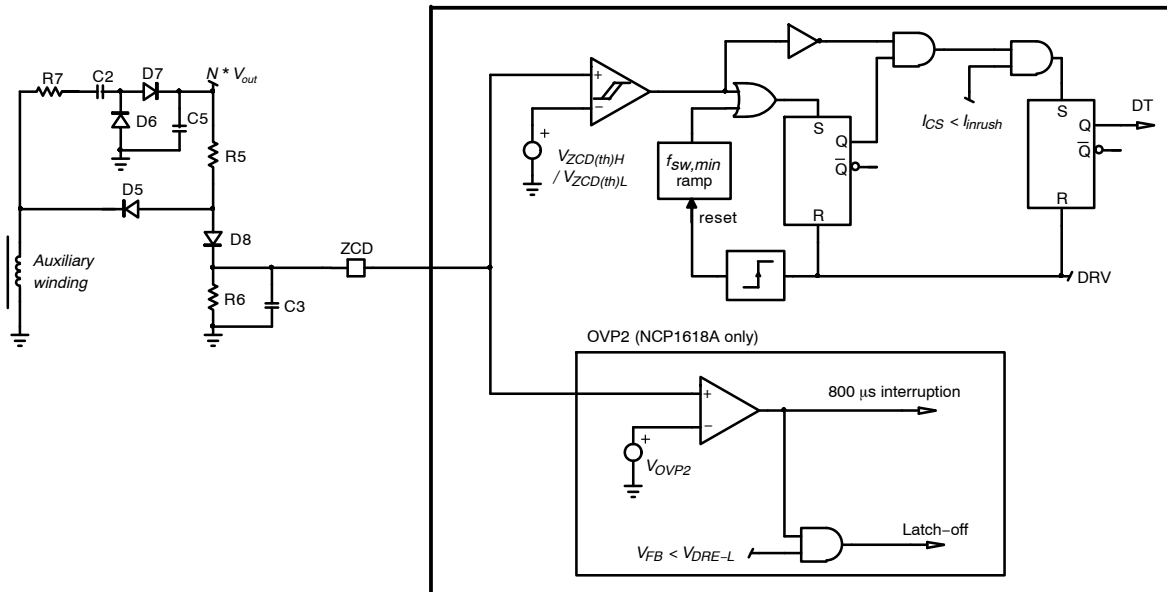

Figure 10. Zero Current Detection Block
Application note AND90011 discusses recommended circuitries for an accurate ZCD and OVP2 detections. Figure 10 provides one of these circuitries. In this circuit, R_7 being small, capacitor C_2 is charged to
Figure 10 shows how the NCP1618 detects the valley. An internal comparator detects when ZCD pin voltage exceeds an upper threshold V_{ZCDH} (1 V typically). When this is the case, the inductor core is resetting and the ZCD latch is set. This latch will be reset when the next driver pulse occurs. Hence the output of the latch remains high during the whole off-time (demagnetization time + any possible dead time). The output of the comparator is also inverted to form
- The ZCD pin impedance (for instance R_3 of Figure 10), must be higher than $7.5\text{ k}\Omega$ not to trigger the ZCD pin short–to–ground protection.
If no ZCD can be detected when the circuit operates in FCCrM mode, the circuit cannot use the valley detection to start a new current cycle. In this case, the next DRV pulse is forced by the DCM minimum frequency ramp ($f_{sw,min}$ ramp of Figure 10) which acts as a watchdog.
- If the pin is grounded, no falling edge of the auxiliary winding can be detected. The DRV remains off until the DCM minimum frequency ramp initiates a new cycle. Before the new pulse is generated, the circuit senses the pin impedance by sourcing $250\text{ }\mu\text{A}$. No DRV pulses are generated until the pin voltage exceeds V_{ZCDH} . Hence, the part is inhibited when the pin is grounded. Not to trigger this protection, the pin impedance (for instance R_3 of Figure 10, must be higher than $7.5\text{ k}\Omega$).